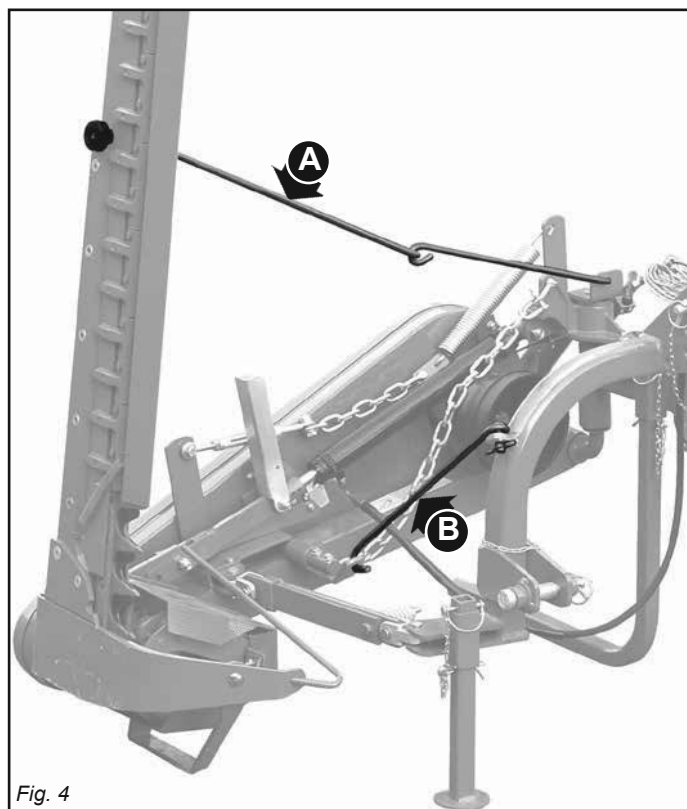

Fig. 4
- 34) Fix the side lift links with the relative chains and idlers during the transport phase; raise the cutter arm; fix it in place with the rod (A, Fig. 4); insert the safety hook (B, Fig. 4); cover the cutters and outer skid with the relative guards; raise the mowing bar; set the control lever of the hydraulic lift to the locked position with the implement raised.